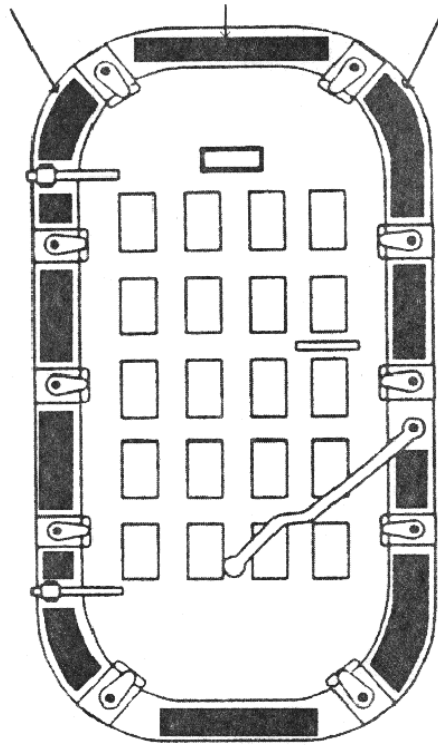

Figure 10-6; Typical Photoluminescent
- b. Doors And Scuttles: The outline of doors along primary egress routes shall be marked with a 2-inch border of **photoluminescent** material. Doors opening to the weather decks shall have the frame vice the door outlined. Scuttles with folding/roll up ladders and all access fittings leading out of machinery spaces shall be so marked. See figures 10-6 and 10-7 for examples.